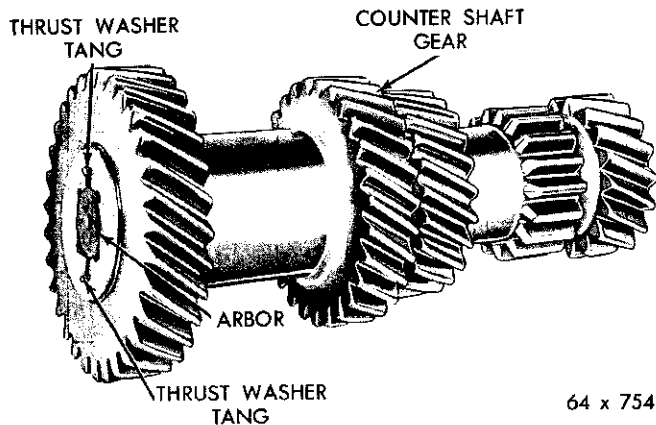

Fig. 20—Cluster Gear and Arbor Assembly
(3) Coat the thrustwasher with heavy grease and install them over the arbor with the tang side toward the case boss, as shown in Figure 20.